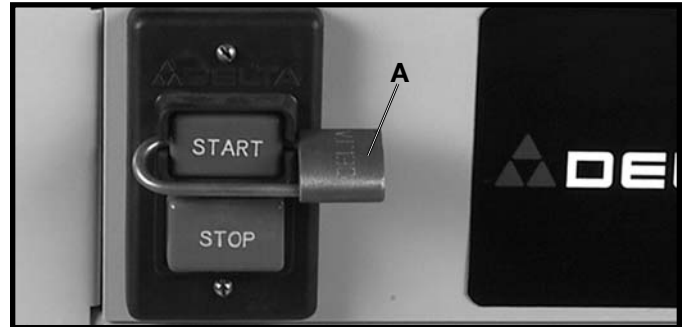

Fig. 11
IMPORTANT: When the machine is not in use, the switch should be locked in the OFF position using a padlock (A) Fig. 11, with a 3/16" diameter shackle to prevent unauthorized use.